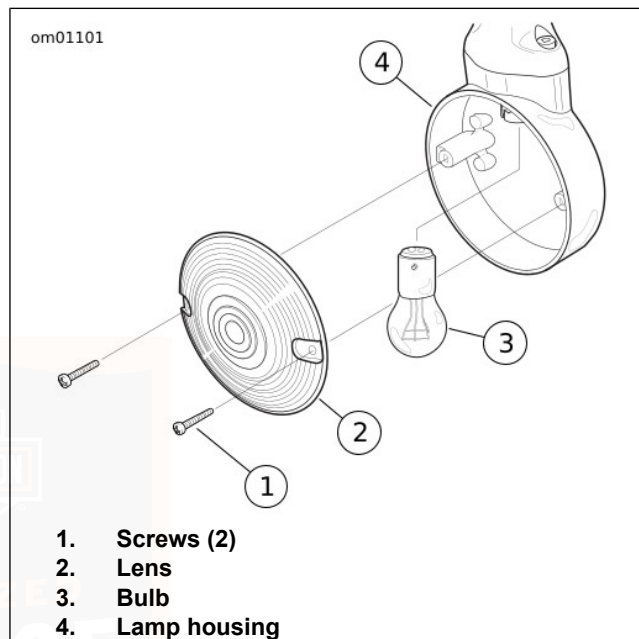

Figure 100. Turn Signal Lamp Assembly: Flat Lens Style
1. See Figure 100. Remove two screws (1) to release lens (2) from lamp housing (4).
2. While pushing bulb (3) in, rotate counterclockwise to remove.
6. Secure lens (2) to lamp housing (4) with two screws (1).